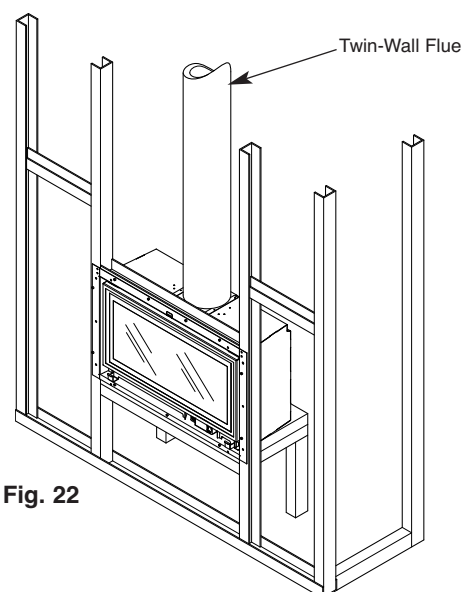

Fig. 22
5. Slide the fire box into position and fix through the holes in the flange into the chimney breast framework using self drilling screws (Fig. 22).
6. Locate the twin wall flue pipe on to the flue adapter on the top of the fire box. Drill three holes with a 3mm bit around the flue tube and secure using the three self tapping screws provided (Fig. 22).